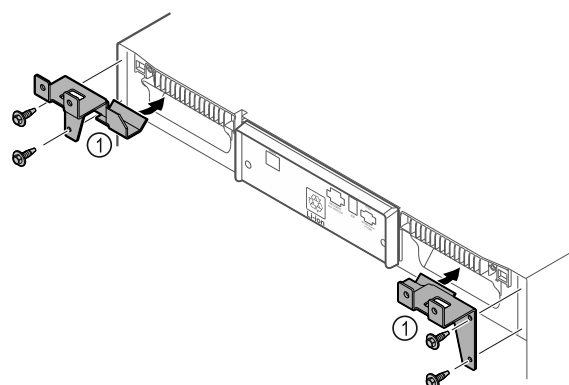

Fig. 10
- Assemble the retaining parts Fig. 10 (1) with the self-tapping screws on the appliance.